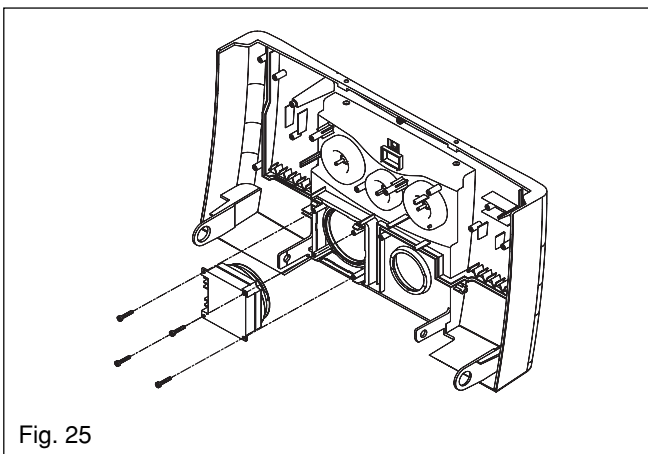

Fig. 25
- remove the push-out blanking disc from the clock aperture plate (fig. 25)
- secure the clock to the aperture plate using the screws provided with the clock (fig. 25)